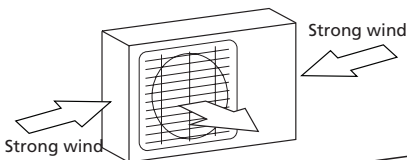

Fig. 4.1
- ✔ If the location is exposed to strong winds (for example: near a seaside), the unit must be placed against the wall to shelter it from the wind. If necessary, use an awning. (See Fig. 4.1 & 4.2)